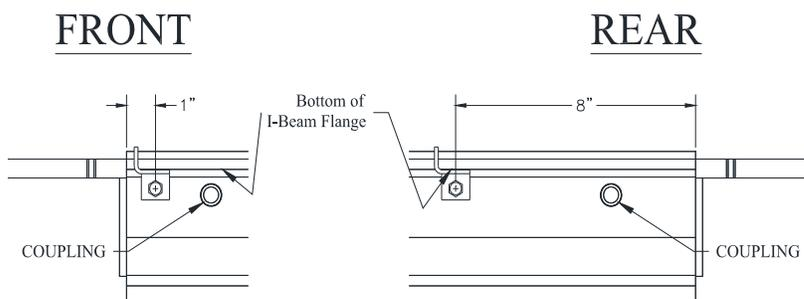

Figure 7
16. On the runway with air supply on the inner side, place Cable Bracket on underside of runway as shown in **Fig 7**. Drill $\frac{3}{8}$ " hole thru I-Beam and secure bracket in place using $\frac{5}{16}$ "-18 x 1" Lg. hex bolt, hex nut, and lock washer.